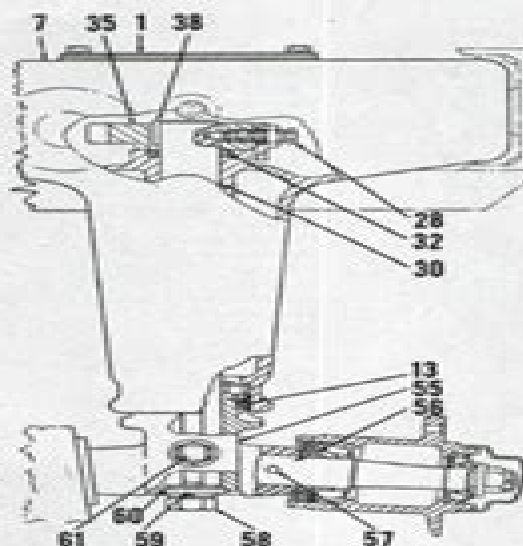

Fig. AC3—Models RC, WC, WD & WD-45 dual wheel tricycle version front support and main steering gear assembly.
3B. C-CA ADJUSTABLE FRONT AXLE. Except that vertical spindle in the front support terminates in a center steering arm instead of a wheel fork, the external parts are the same as on the single wheel models outlined in the preceding paragraph. Refer to Fig. AC3.
3C. C-CA DUAL FRONT WHEELS. To disassemble pedestal and front steering gear, support tractor under torque tube and remove front wheels. Remove cap screws retaining pedestal (29—Fig. AC3) to front support (7) and remove pedestal. Remove cap screw (2), washer (3) and shims from top of vertical spindle shaft (30) and pull pinion gear (8) off shaft. Withdraw shaft, bearing cone and oil seal (13) from bottom of housing. The need and the procedure for further disassembly will be determined by an inspection of the parts and by reference to Fig. AC3. Pressed bushings (17) are supplied for steering arm shaft, and if carefully installed require no shims after installation. Removal of front support from tractor requires removing radiator core and detaching support from engine.
3D. Assemble steering arm shaft and segment gear before installing pedestal assembly. Pinion gear and vertical spindle shaft are punch marked and should be assembled as in Fig. AC10. Vary number of shims (4—Fig. AC3) between top of shaft and pinion gear retaining washer to remove all bearing play but permitting shaft to turn without binding. Install pedestal unit in front support varying the number of shims (9) to provide .002 backlash between pinion and segment gear. Pinion gear and segment gear should be meshed so that steering arm is in position shown in Fig. AC11 when front wheels are in straight-ahead, trailing (caster) position and main steering gear is in mid-position.
4. RC - WC - WD - WD-45 WORM-SHAFT. To disassemble worm shaft, bump pin out of steering shaft universal joint and worm shaft and slide universal joint back. Remove steering shaft bearing bracket (47) and shims